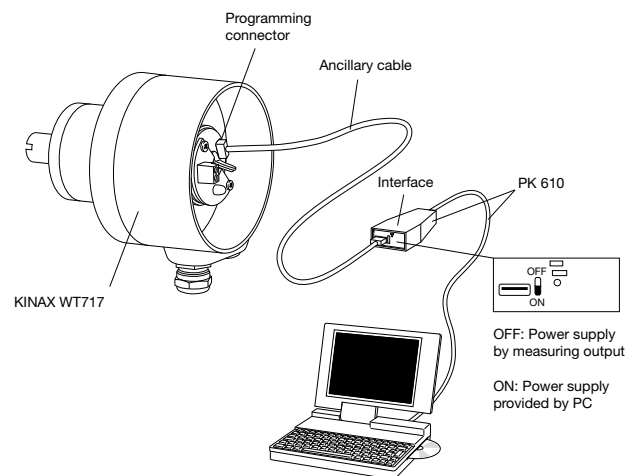
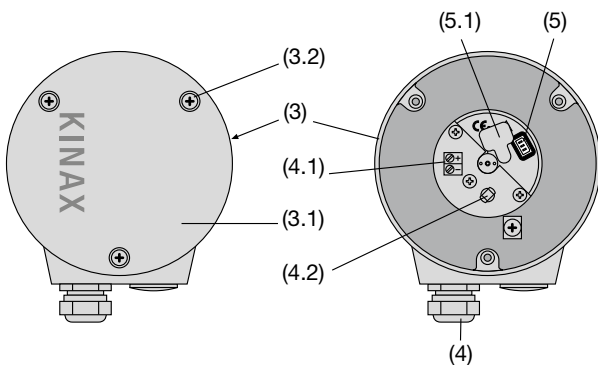

Fig. 2
Fig. 3. Rear (3) with terminals (4.1) and cable glands (4).
1. Remove the cover (3.1 in Fig. 3). Remove the rubber cover (5.1) to gain access the programming connector (5), (see section “8.1 Connecting transmitter”). Connect the KINAX WT 717 to the programming device according to Fig. 2. Start the 2W2 configuration software. If necessary, configure the device with the required measuring range data.
Strip the insulation from a suitable length of the leads and connect them to the terminals (4.1) according to Fig. 3.
1. Put the transmitter into operation and connect the programming device according to Fig. 2 (AUX switch on the PK 610 on the OFF position).